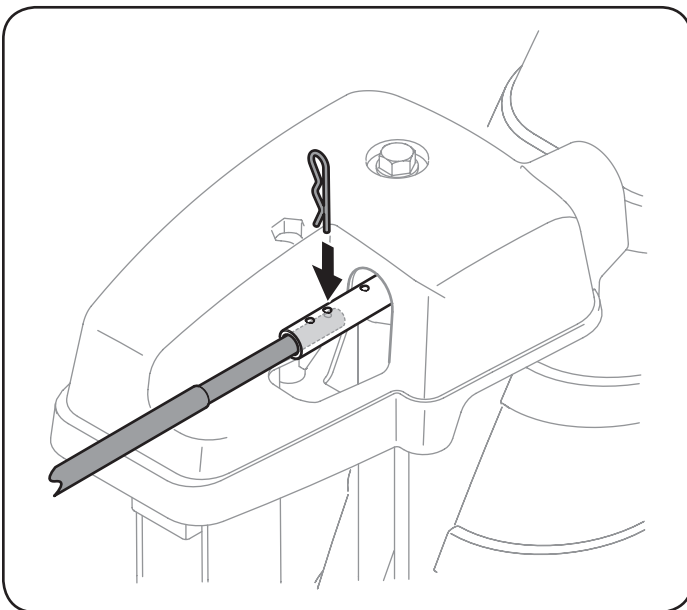

Figure 8
7. Push the chute control rod toward the control panel until the hole in the rod lines up with the middle hole in the chute control input and insert the cotter pin. See Figure 8.